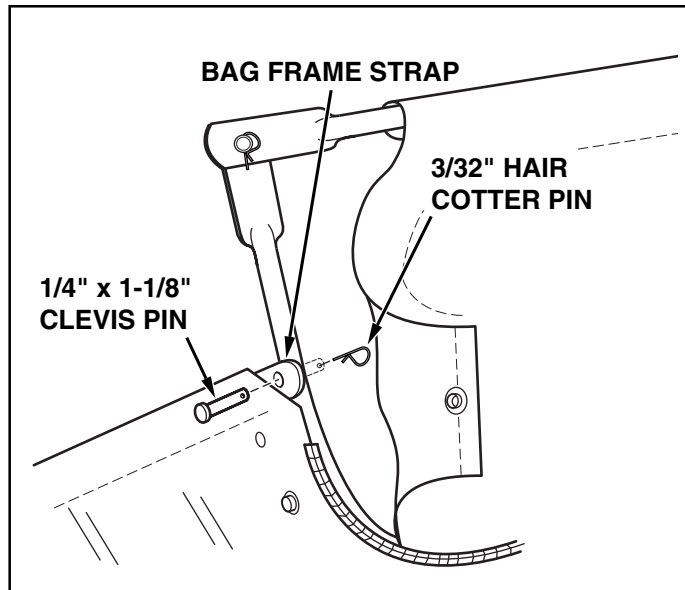

FIGURE 12
- Insert the bag frame strap into the stitched sleeve along the front edge of the bag bottom. See figure 12.
- Assemble the bag frame strap to the holes in the lower hopper tubes using two 1/4" x 1-1/8" clevis pins and 3/32" hair cotter pins. See figure 12.